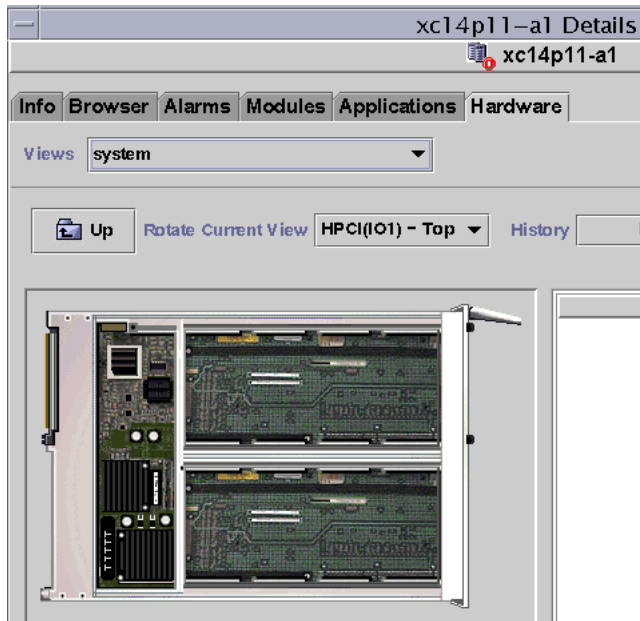

FIGURE 5-7 Top of HPCI Board in Domain Physical View
5. Click on one of the HPCI boards in the bottom slots of the Sun Fire high-end systems domain to display a Physical View of the top of a HPCI board (FIGURE 5-7).